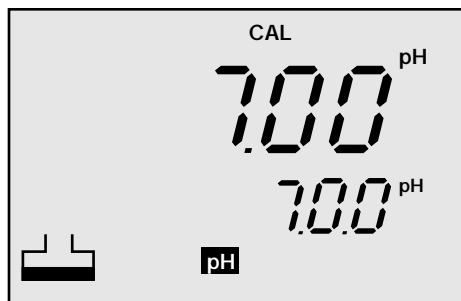

Figure 5
- 4. Press CAL/MEAS** and the display will show **CAL**. The primary display will show the measured reading while the smaller secondary display will automatically indicate the pH 7.00 (or other value) standard buffer solution (**Figure 5**). If necessary, use the ▲ and ▼ keys to select other standard pH buffer values.